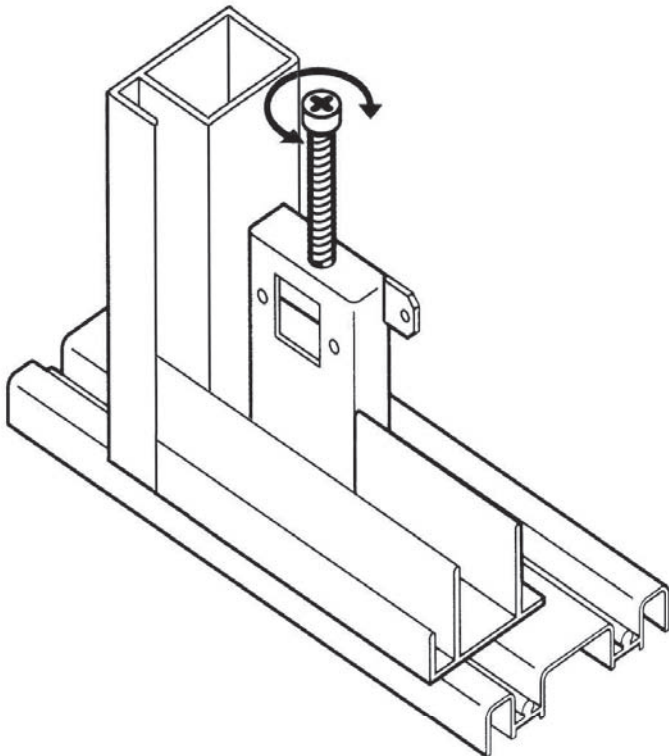

Figure 4
- A. Slide the front Mirrored Panel (#1) to the side closest to the entrance door. Look at the space between the door edge and wall. You want the door edge and wall to be flush. If you see space at the top or bottom edge of the Mirrored Panel (#1), turn the adjusting screw on top of the Steel Wheel Assembly (#14) on the lower back of the Mirrored Panel (#1) nearest the wall. Turn the screw left or right until the Mirrored Panel (#1) is flush with the wall (See Figure 4).